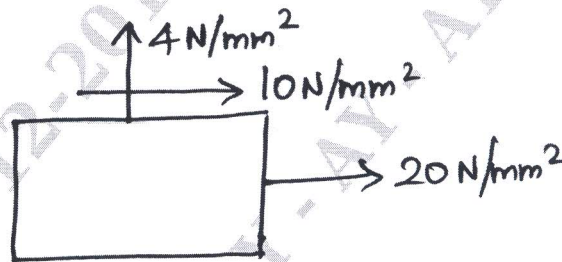

Fig.Q7(c)
c. For the state of stress shown in Fig.Q7(C), find the principal plane and principal stresses. (06 Marks)